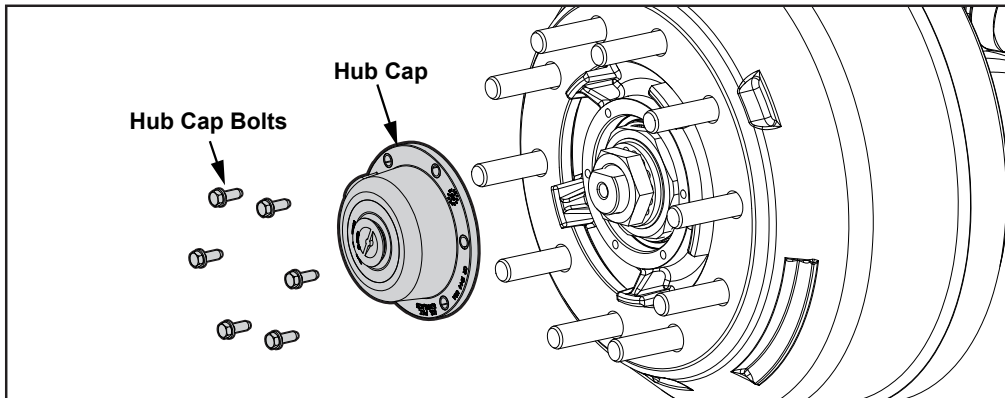

Figure 7
2. Remove the hub cap gasket and discard (see Figures 7 and 8).
1. Clean the hub and axle flange of all residual gasket material (see *Figures 7 and 8*).
2. Reinstall the hub cap a new gasket (obtained locally) and secure with bolts and washers set aside in “**Front Wheel Ends**”, Step 1 (see *Figures 7 and 8*).